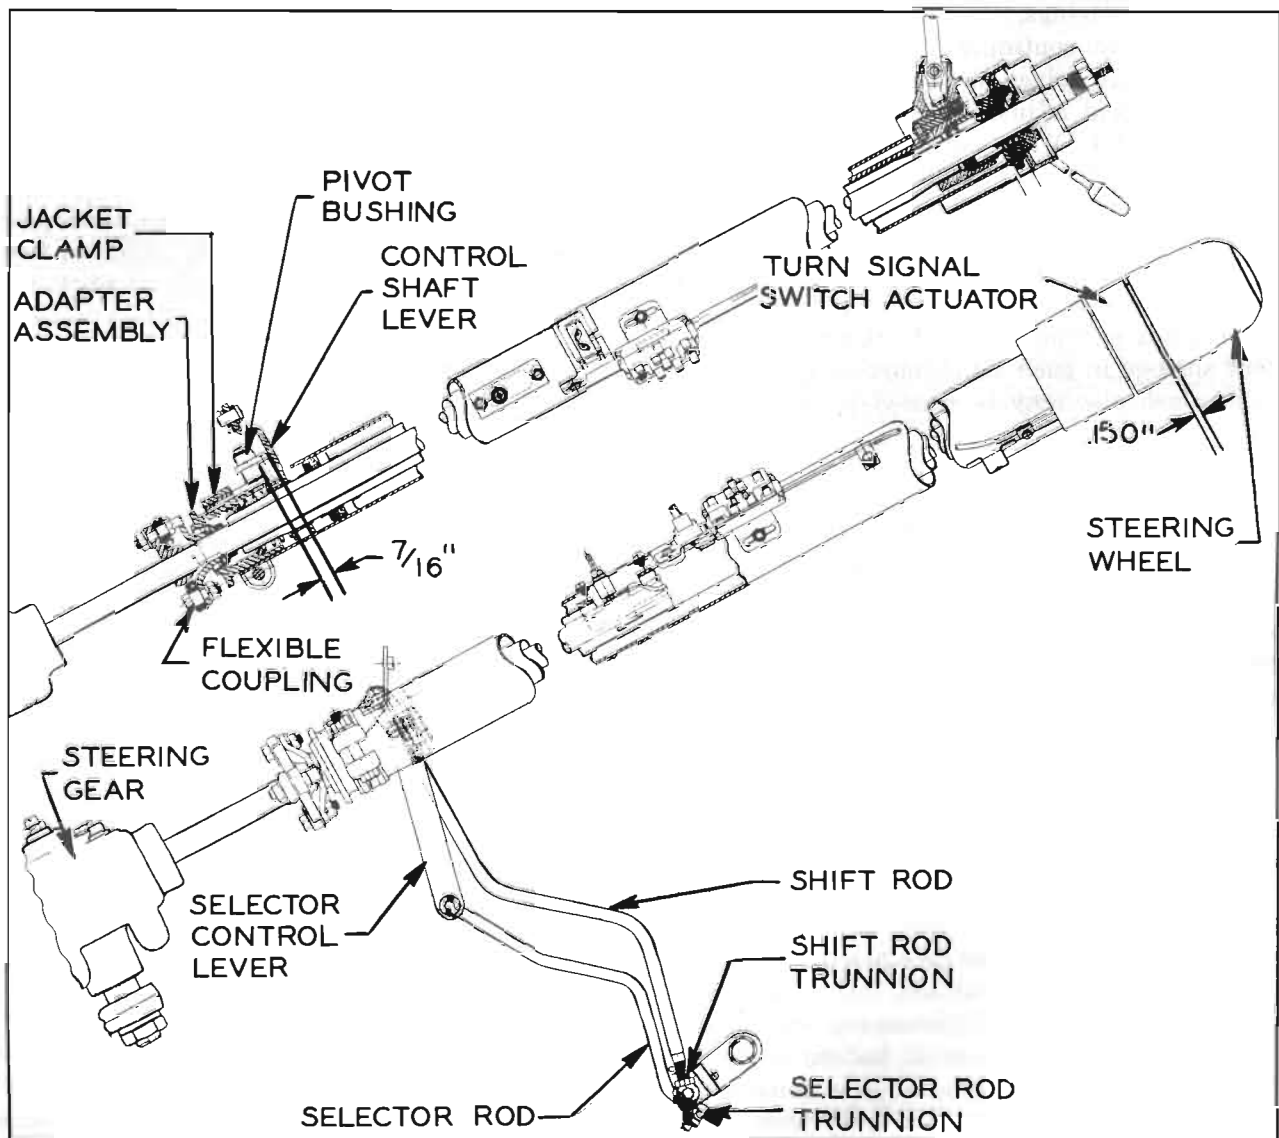

Figure 4-12—Synchronmesh Transmission Shift Controls
1. Force adapter assembly and upper coupling flange downward so that there is only .150" clearance between steering wheel hub and turn signal switch actuator. Now raise or lower jacket clamp until selector control lever pivot bushing clears control shaft lever by  $\frac{7}{16}$ ". Then tighten clamp securely. See Figure 4-12.